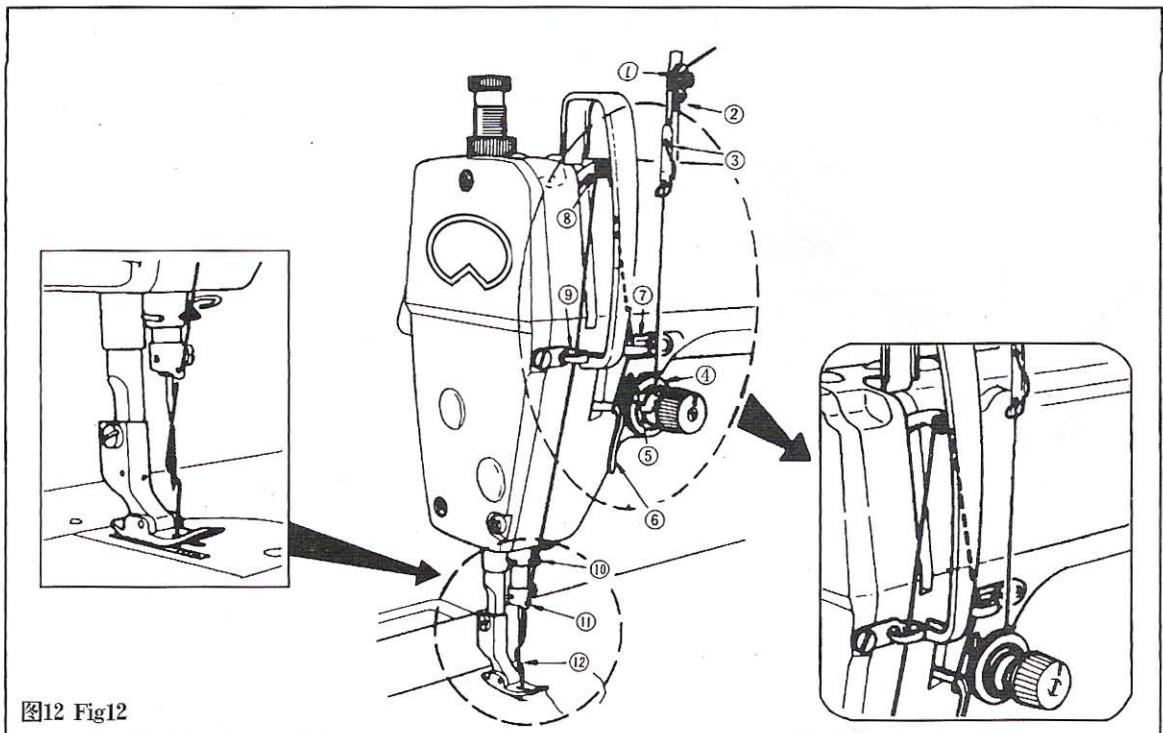

图12 Fig12
6. 面线的穿法(图 12)
6. THREADING THE MACHINE HEAD (Fig.12)